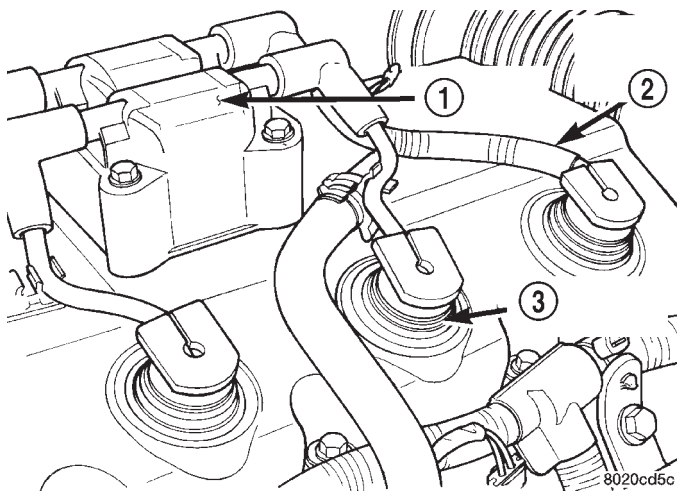

Fig. 41 Ignition Coil and Spark Plug Cables
- (2) Remove ignition coil and spark plug cables (Fig. 41).
- (3) Remove cylinder head cover bolts.
- (4) Remove cylinder head cover.
(2) Install cylinder head cover and gasket. Tighten bolts to 12 N·m (105 in. lbs.).
(3) Install ignition coil and spark plug cables (Fig. 41). Tighten ignition coil fasteners to 12 N·m (105 in. lbs.).